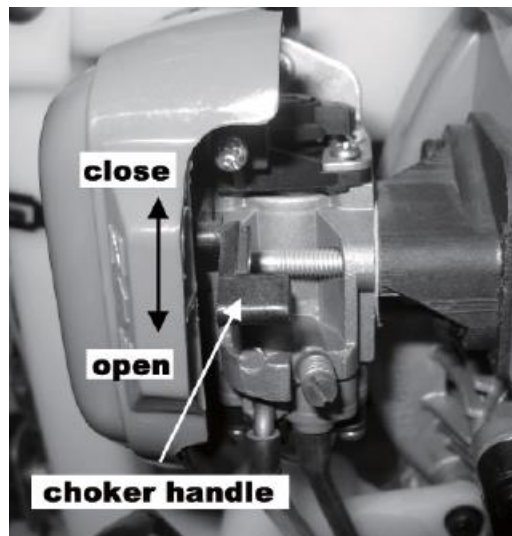

Figure 4
4.2.4 Regulate the choker (see Figure 4) to close position in winter and at the first time to full open position when the engine is hot.